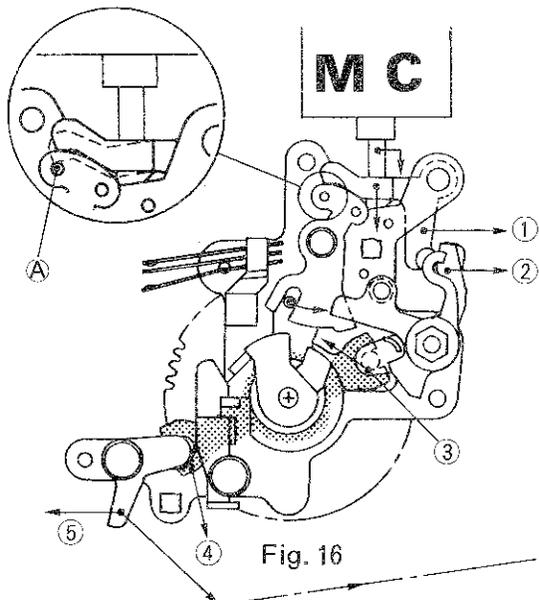
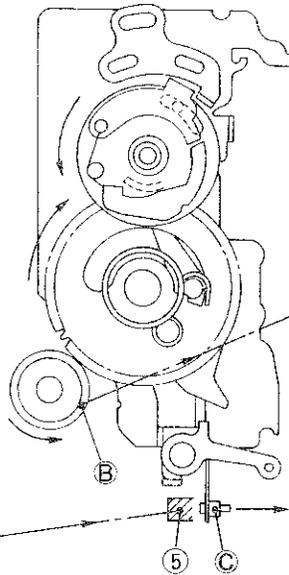
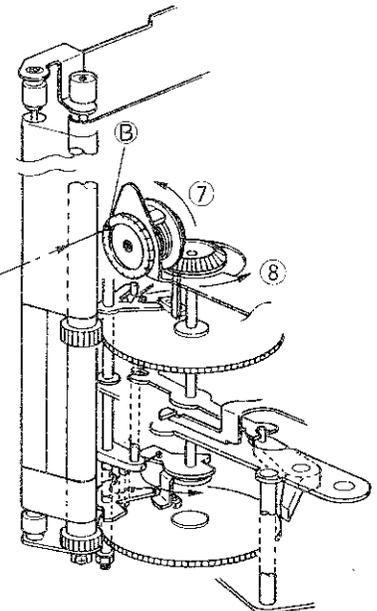
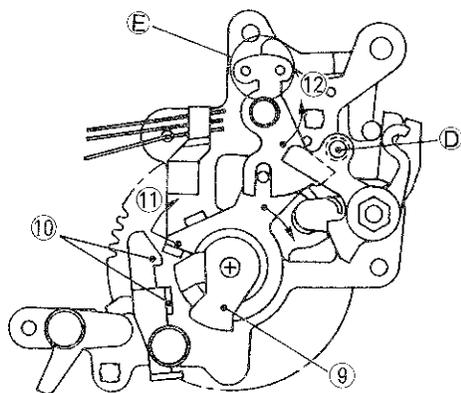

Fig. 16
Fig. 17
Fig. 18
Fig. 19
When MC, receiving a release signal in charged conditions shown in Fig. 16, is actuated, each transmitting lever moves in the arrow direction of ① ② ③ ④, and S release ⑤ pushes M release c (Fig. 17), thus unlocking mechanical charge. (Since MC pin controls lever ①, using stop pin A (Fig. 16), MC force is actuated in a half-reduced position, thus moving only levers ② ③ ④ ⑤.)
M charge cam thus unlocked actuates the mirror-up lever. On the other hand, gear B coupled with gear S2 transmits the rotation in the arrow direction of ⑦ ⑧ (Fig. 17 - Fig. 18), and charge lever ⑨ (Fig. 19) coaxial to ⑧ disconnects hook ⑩ after the mirror goes to the specified uppermost position. At the same time, the interlocking units ⑪ ⑫ move in the arrow direction, and when ⑫ disengages 1st curtain stop lever claw D, 1st curtain runs, while the 1st curtain shutter charge gear is rotating. (Stop pin E in Fig. 19 is unlocked, so that lever ① is set free.)